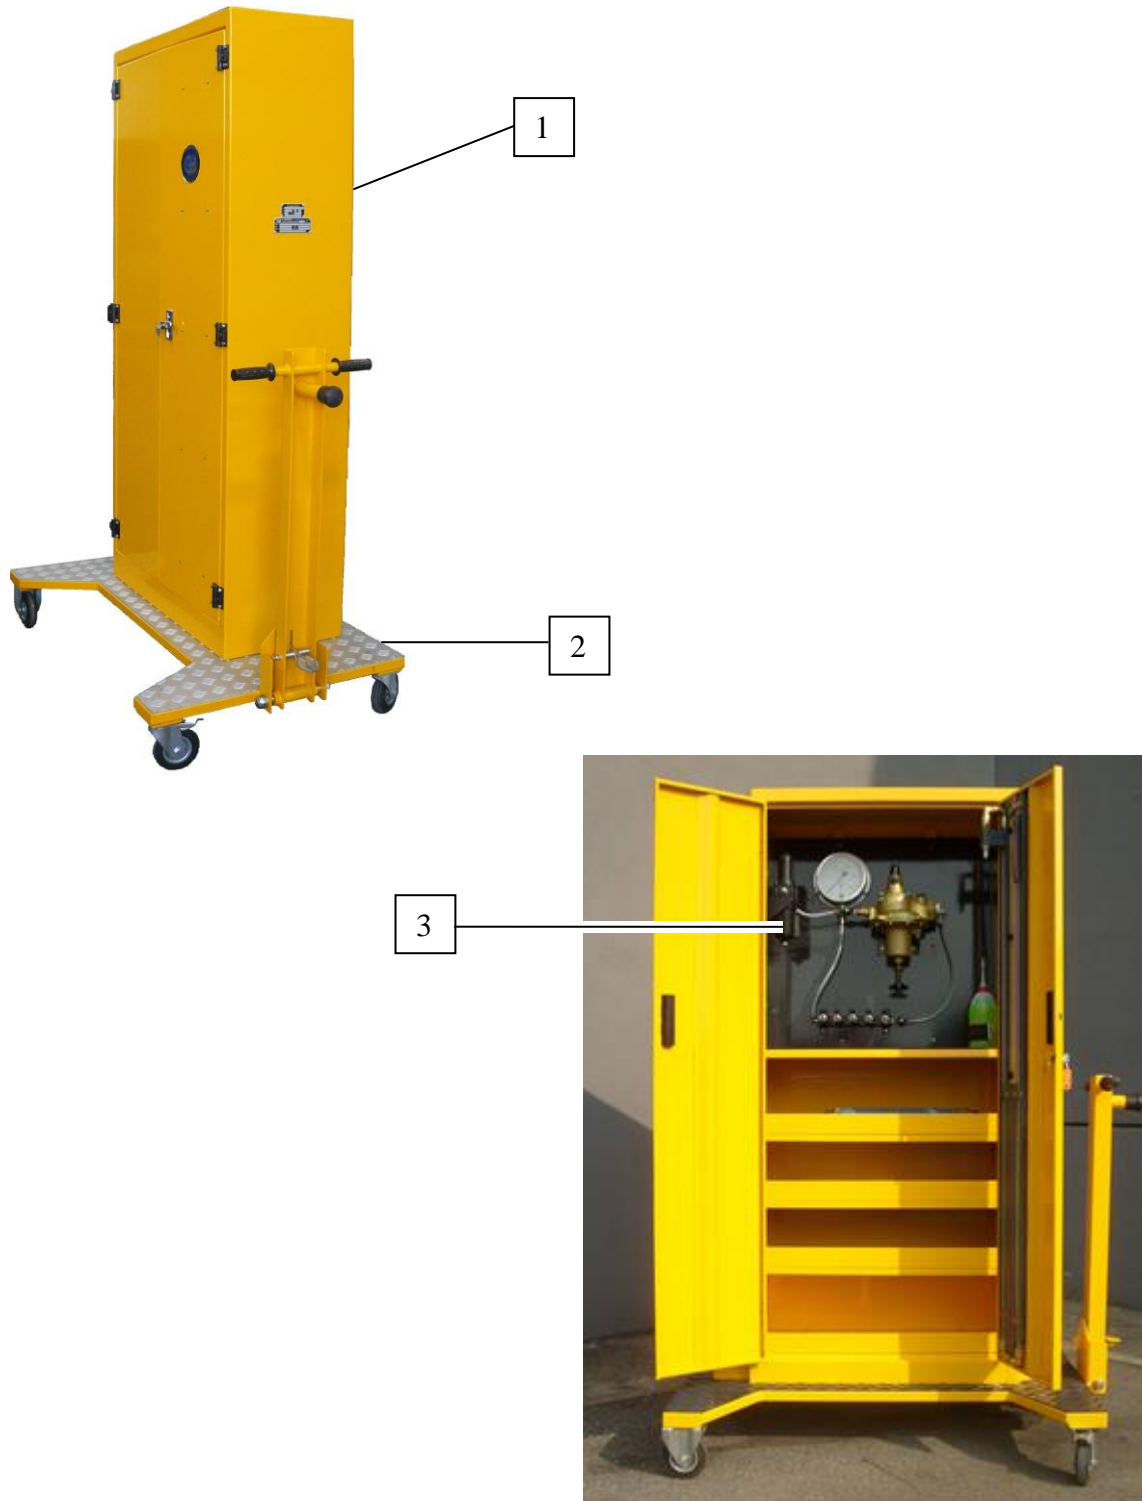

FIG. 4.1: APTS PN GB967-090-100/200/300 ASSEMBLY
| Irregular adjustment of pressure | defective pressure reducing valve (ref. 3 fig. 4.1) | replace the valve |
| | defective cutoff tap (ref. 7 fig. 4.1) and/or (9) (10) taps used | replace the taps |
TABELLA 4.1: ASSIEME APTS PN GB967-090-000/100/200/300 (ref. fig. 4.1)